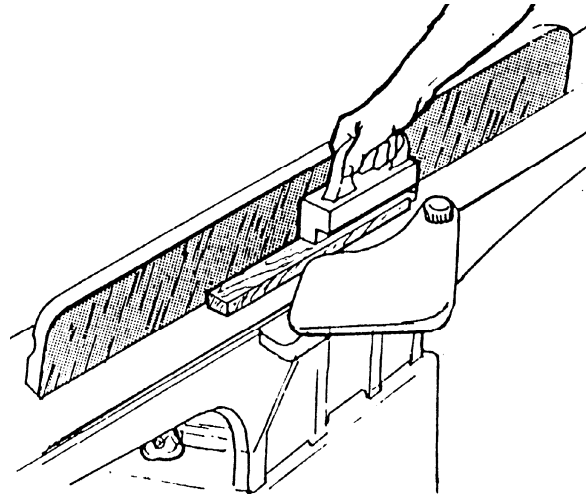

Figure 38
- ❑ With narrow stock use the type push block shown in Figure 38.